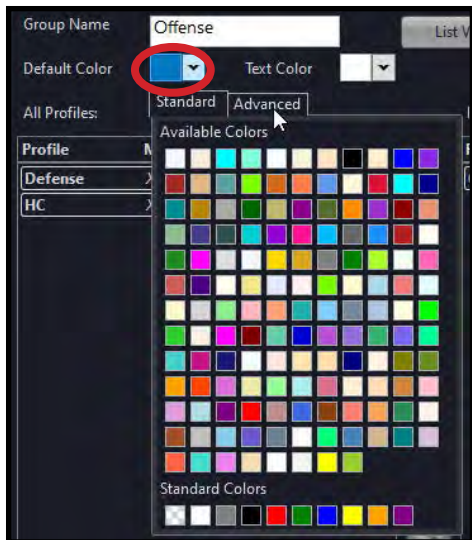

Figure 107: Editing Group Colors
- Open the drop-down color pickers in the Color and Text Color fields, and choose a color to represent the group (see Figure 107). This color choice appears on the RP Icons (X-Ware’s Home screen) for profiles with the group assignment.